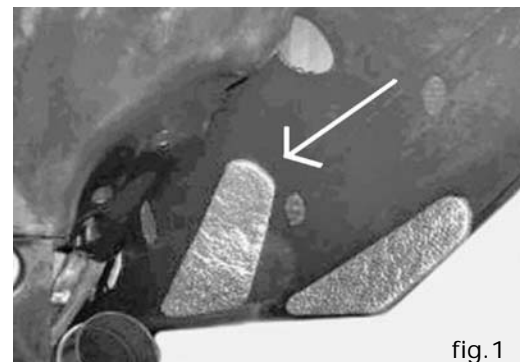

fig.1
6. Clean the inside of the side panel using contact cleaner or alcohol, then apply the thermal protection foil (fig. 1).